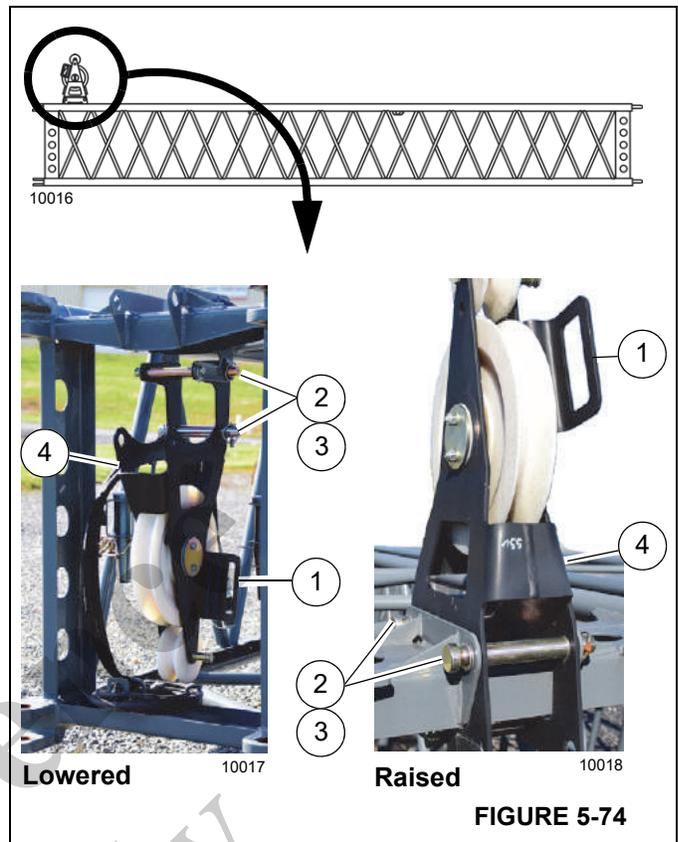

FIGURE 5-74
- a. Hold the handle (1, Figure 5-74) and remove retaining clips (2) and pins (3).
- b. Swing the mast sheave assembly (4) to the raised position. Align the holes.
c. Install pins (3). Secure with retaining clips (2).